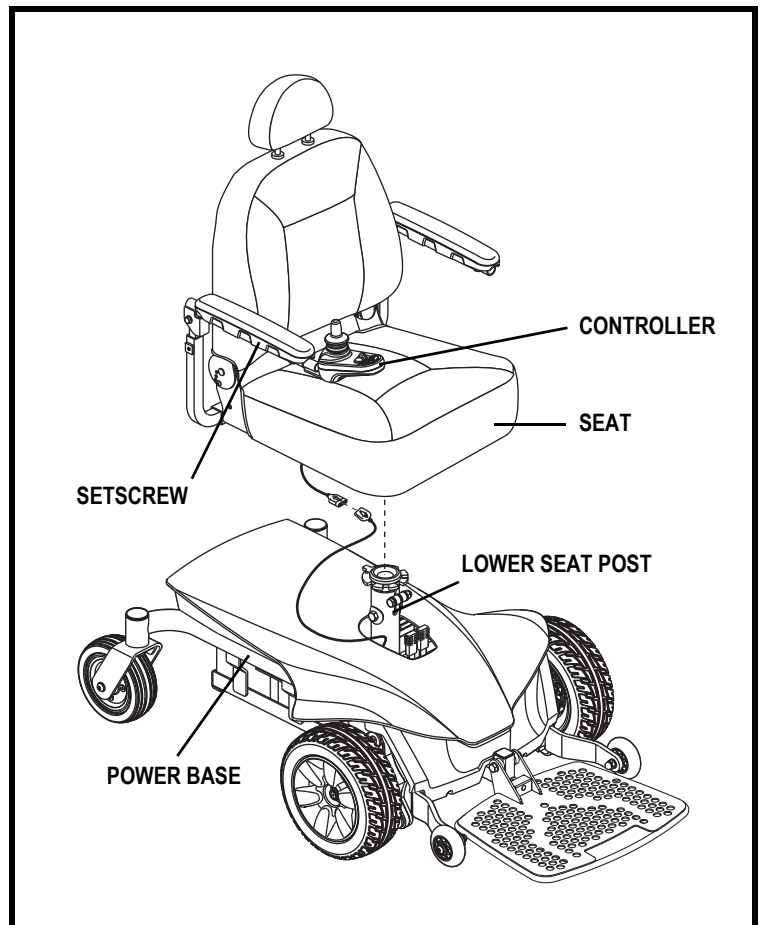

Figure 7. Seat and Controller Assembly
1. Adjust the upper seat post to the desired position and insert the bolt through the seat post and secure with the nut. **See figure 7.**
2. Slide the seat down onto the upper seat post. **See figure 7.**
3. Install the controller into one of the armrests. Tighten the setscrew with the supplied hex key. **See figure 7.**
4. Lift the armrest straight up, then route the controller harness and secure with wire ties as shown in **figures 7, 8 and 9.**